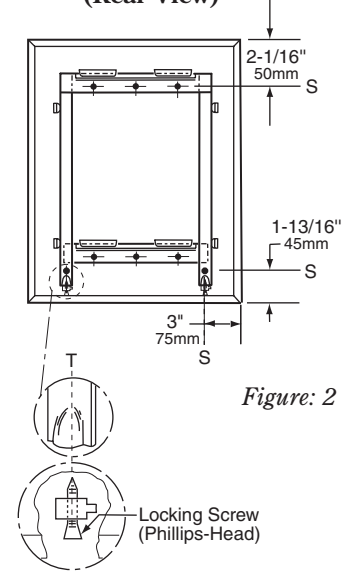

Figure: 2
**Frame** — Type 430 stainless steel, 1/2" x 1/2" x 3/8" (13 x 13 x 9.5mm) channel 1/4" (6mm) return at rear with bright polished finish. One-piece frame with 90 degree mitered corners. Galvanized steel back has integral horizontal hanging brackets near the top for hanging the mirror and near the bottom to prevent the bottom of the mirror from pulling away from the wall. Locking devices secure mirror to concealed wall hanger. In Screw Locking Design(see figure 2), concealed Phillips-head locking screws securely fasten mirror to wall hanger.